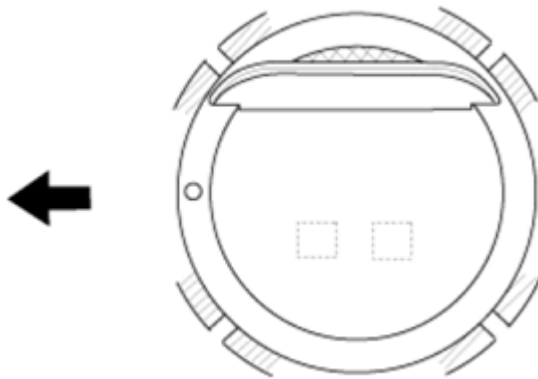

Fig. 35: Installing Piston Rings
3. Position the piston rings so that the ring ends are as shown in **Fig. 35**.